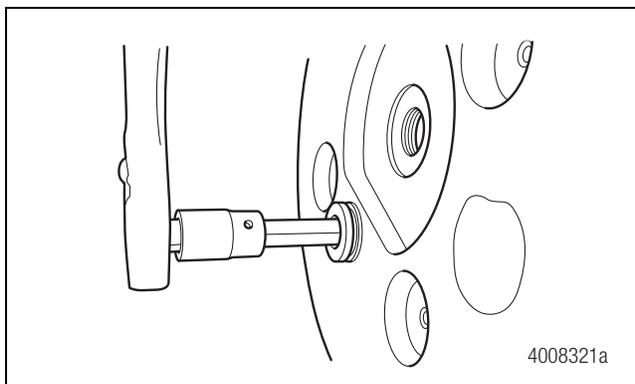

**Figure 10.1**
5. Place a drain pan under the hub drain plug. Rotate the wheel end so the drain plug is at its lowest position. Remove the drain plug and allow the hub oil to drain completely from the wheel end. Figure 10.1.